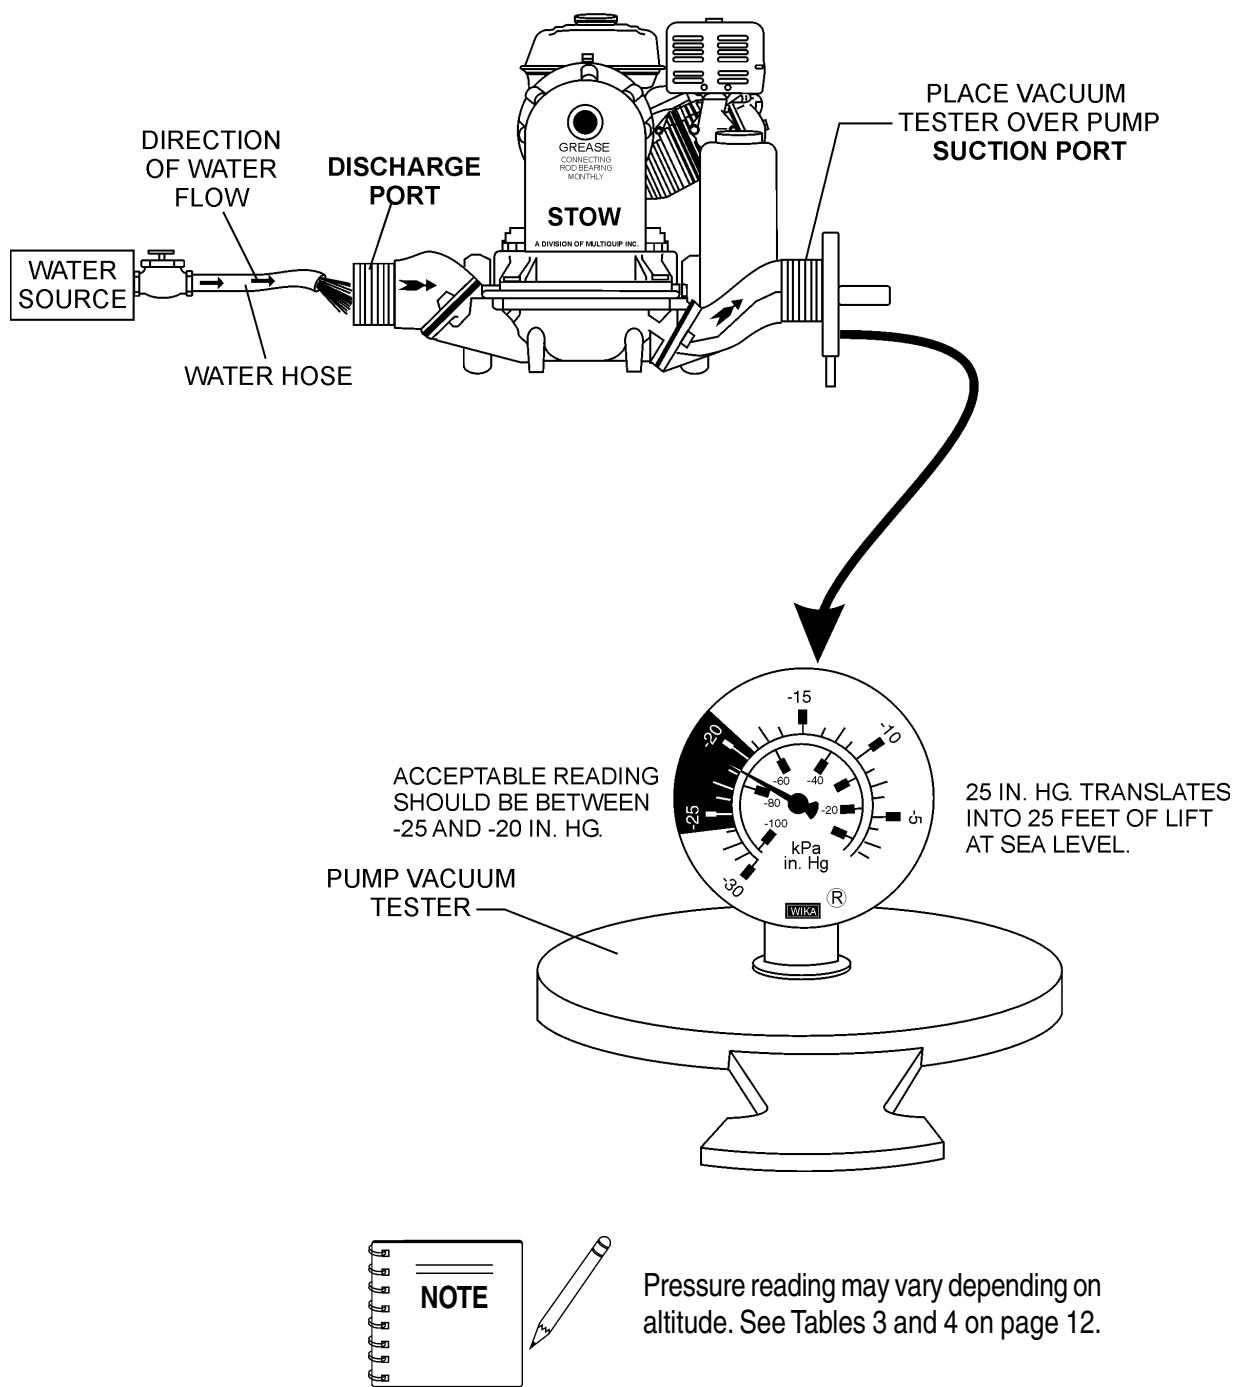

Figure 19. Pump Vacuum Tester
3. As shown in Figure 19 (next page), place a water hose inside the discharge opening of the pump, and turn on the water. This flow of water into the discharge opening will **prevent** the pump from running dry.
4. Place the **Pump Vacuum Tester** (P/N 7000030) over the pump suction (inlet) opening (Figure 19) with the vacuum gauge facing upwards. It may be necessary to apply a small amount of water around the rubber seal of the vacuum tester to make a good suction fit.